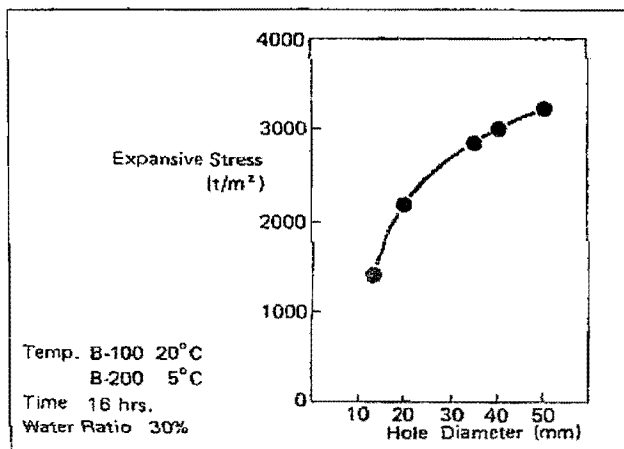

Fig. 2 The relation between the expansive stress and hole diameter.
IV. "BRISTAR" has an expansive stress of more than 3000 t/m² (Fig. 2, 3, 4)
- 2) The larger the hole diameter is, the greater the expansive stress becomes. (Fig. 2)